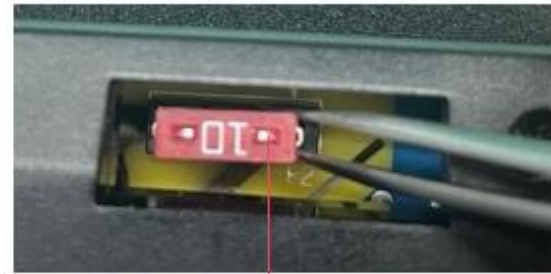

Figure 8-24 Opening the Fuse Protection Cover
- Use a flathead screwdriver to vertically pry up the fuse protection cover on the back of the oscilloscope, as shown in Figure 8-24